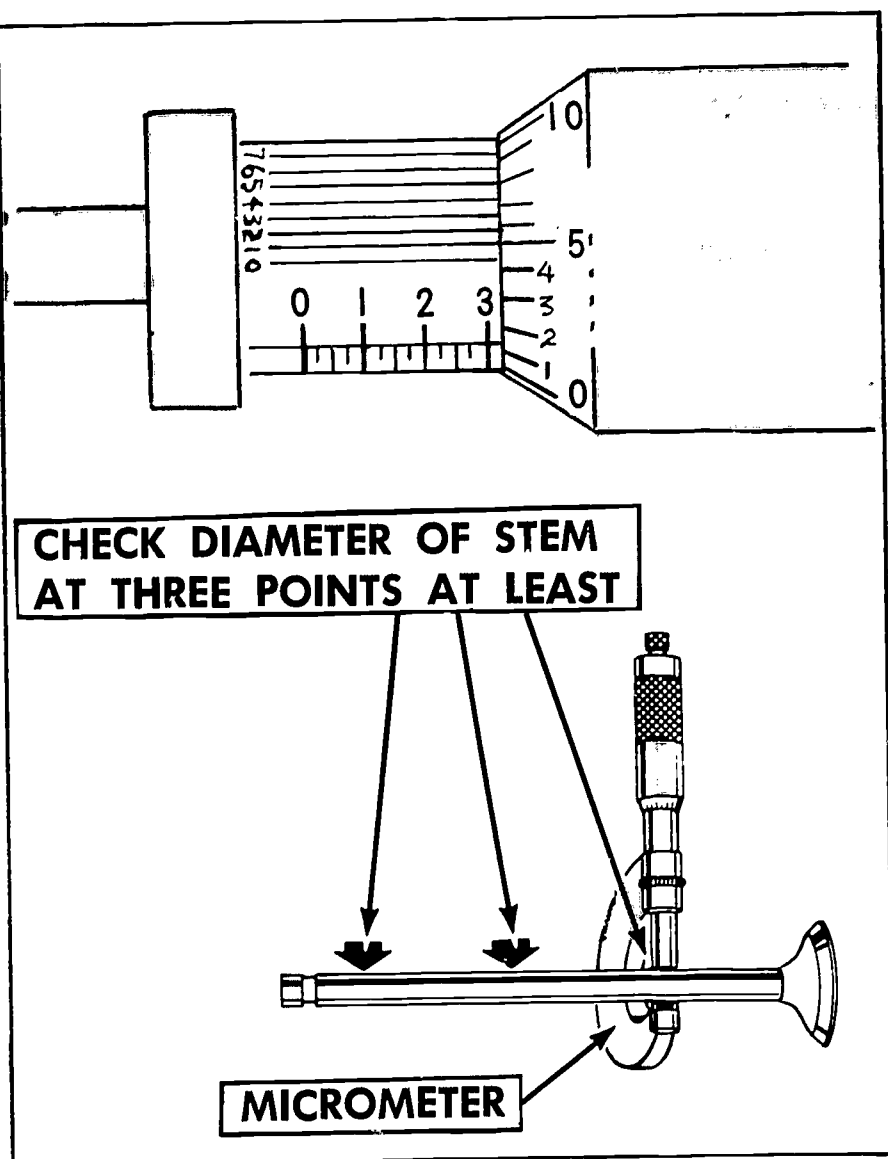

FIGURE 198. Checking the valve-stem diameter with a micrometer.
2. Check condition of valve stem (Figure 198).